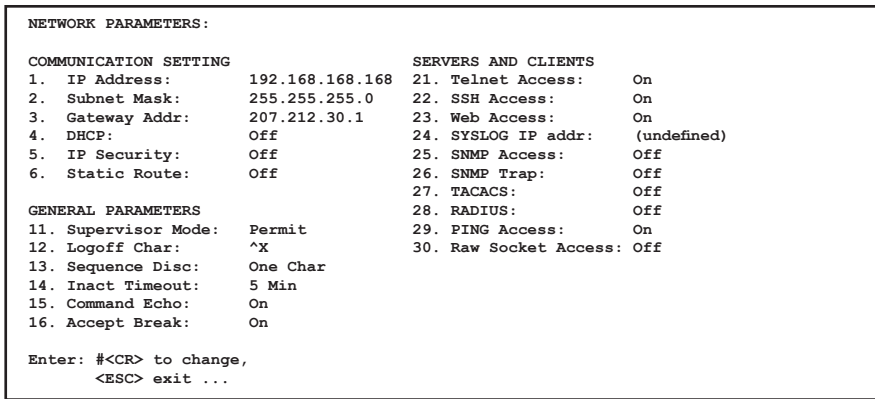
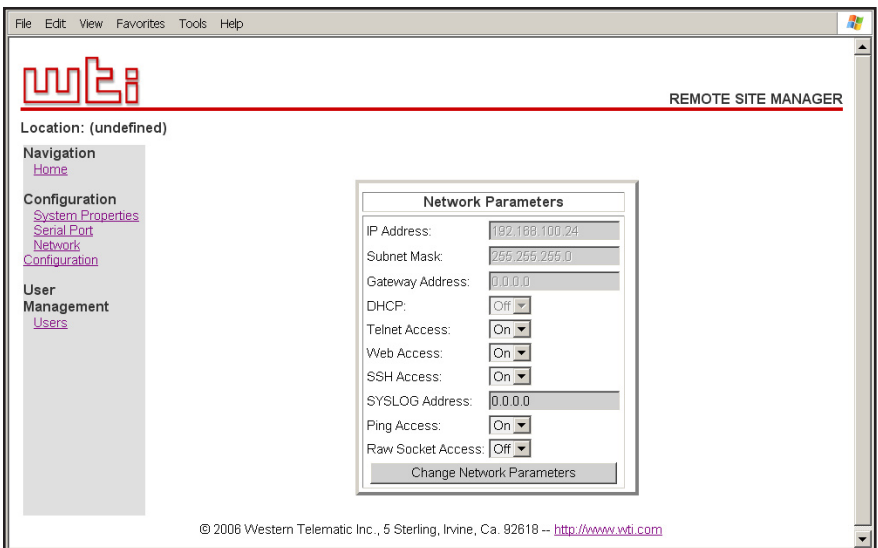
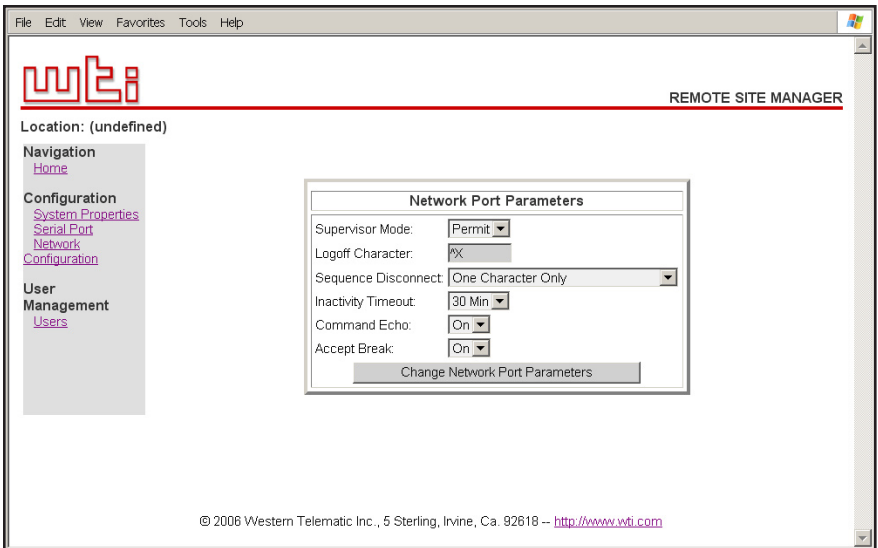
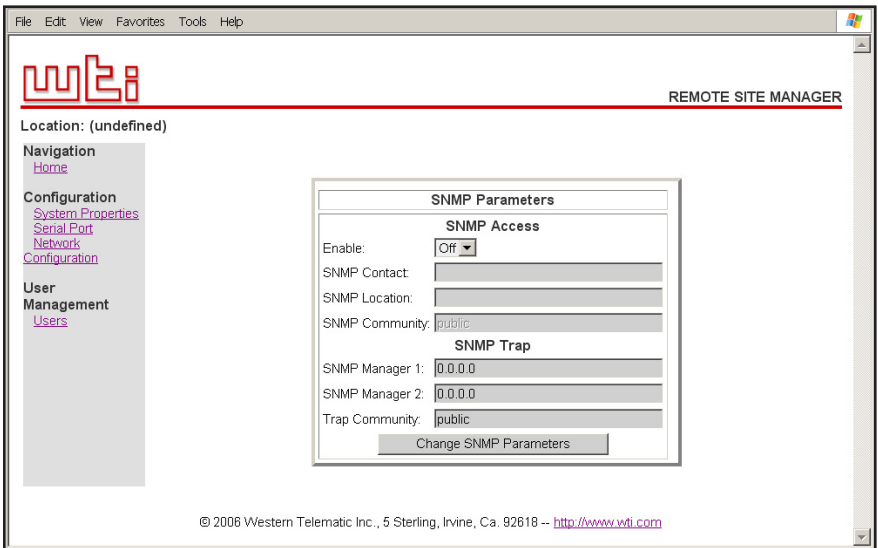

Figure 5.9: Network Parameters Menu (Supervisor Mode Only)
Figure 5.11: Network Parameters Menu (Web Browser Interface)
Figure 5.12: Network Port Parameters Menu (Web Browser Interface)
Figure 5.13: SNMP Parameters Menu (Web Browser Interface)
- **Text Interface:** Type `/N` and press **[Enter]**. The Network Parameters Menu shown in Figure 5.9 will be displayed.
In the Text Interface, these parameters are accessed via the Network Configuration menu (Figure 5.9.) In the Web Browser Interface, these parameters can be found by first clicking the "Network Configuration" link, and then Clicking the "Network Parameters" link to display the Network Parameters menu (Figure 5.11.)
In the Text Interface, these parameters are found in the Network Configuration menu (Figure 5.9.) In the Web Browser Interface, these parameters are found by first clicking the "Network Configuration" link, and then clicking the "Network Port Parameters" link to display the Network Port Configuration Menu (Figure 5.12.)
As described in Section 5.7.4, the IP Security function allows you to restrict command mode access based on the user's IP address. In the Text Interface, IP Security parameters are defined via item 8 in the Network Configuration menu (Figure 5.9.) In the Web Browser Interface, these parameters are found by clicking the "Network Configuration" link, and then Clicking the "IP Security" link. In the default state, IP Security is disabled.
In the Text Interface, SNMP parameters are found in the Network Configuration menu (Figure 5.9.) In the Web Browser Interface, SNMP parameters can be found by first clicking the "Network Configuration" link, and then clicking the "SNMP Parameters" link to display the SNMP Parameters Menu (Figure 5.13.)